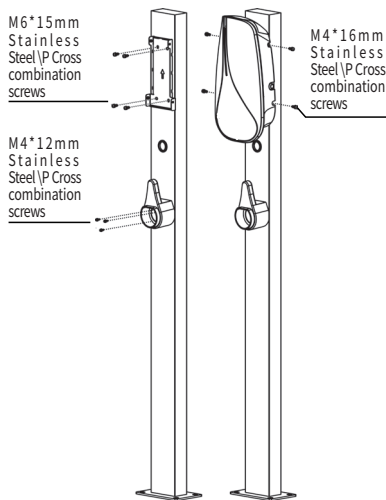

Fig. 11: Installation diagram
5) Installation of charging equipment; Take the charging device out of the packing case, fix the device to the mounting plate using M4*16mm stainless steel combination screws through the corresponding screw holes on the side of the device. As shown in Figure 11.